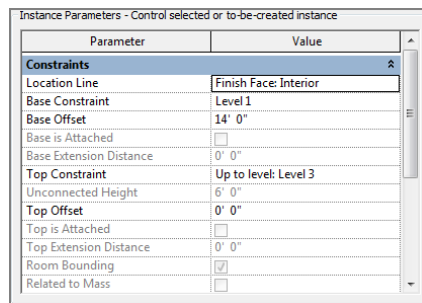

FIGURE 9.28: Setting Top Constraint and Base Offset
3. In the Properties dialog box, set Base Offset to 14'-0" (4200mm), as shown in Figure 9.28.
4. Set Top Constraint to Up To Level: Level 3 (see Figure 9.28).